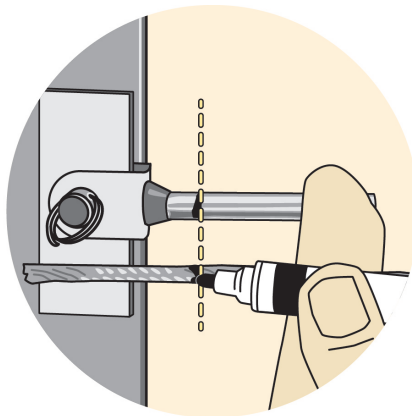
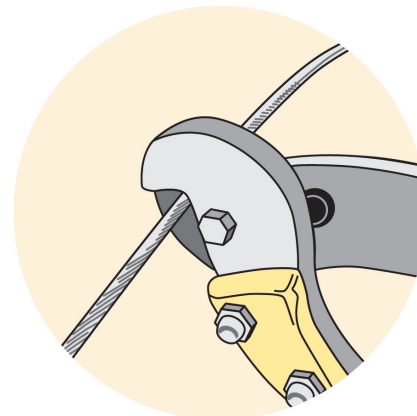

Fig 14
Fig 15
- b) Pull all slack out and hold cable adjacent to the European Jaw Fitting and mark the cable where it matches mark on the fitting (Fig. 14). Cut cable to its final length (Fig. 15).